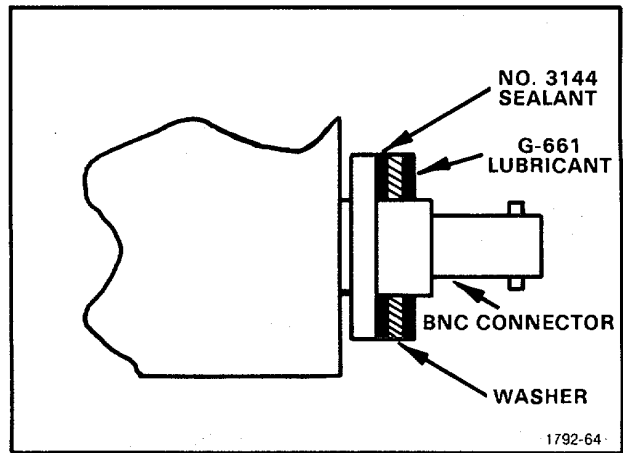

Figure 5-10. Detail of BNC Connector and Washer.
10. Bonding of washer to BNC type connector that is located on the Main Circuit Board Assembly (see Fig. 5-10)